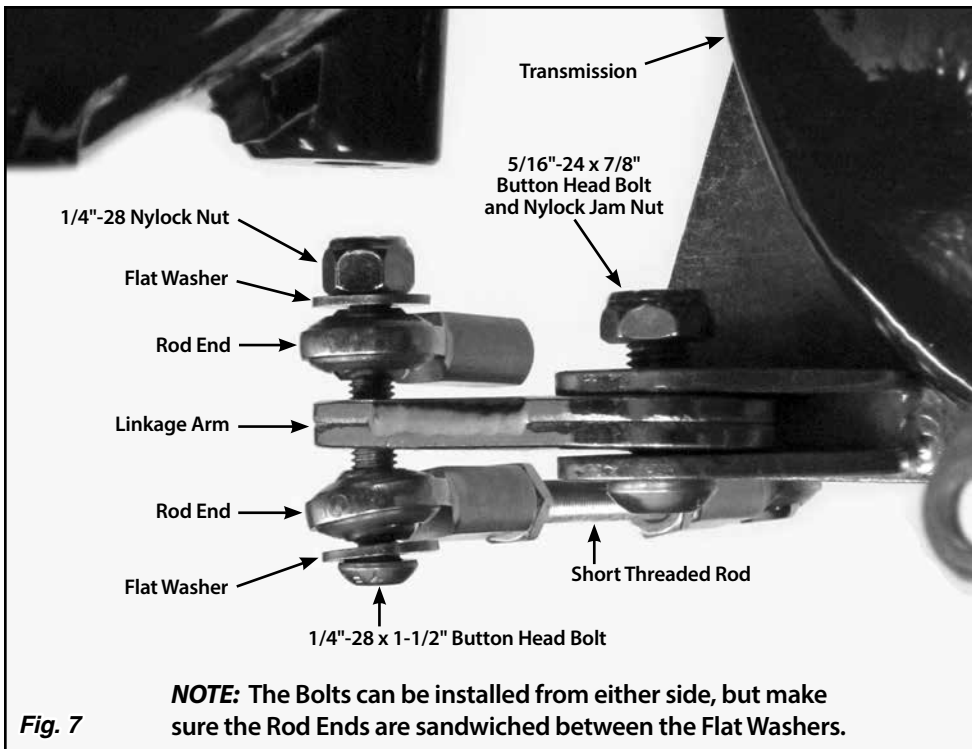

Fig. 7
Step 10: Verify that the linkage arm and rod ends are assembled correctly, with the short threaded rod on the outside of the linkage arm, away from the transmission. **Fig. 7** If not, rearrange the parts as needed in order to match **Fig. 7**. The bolt can be installed from either side, but make sure there is a flat washer to the outside of each rod end. Tighten the 5/16"-24 x 7/8" button head bolt and nylock jam nut at the bottom of the linkage arm. Then, loosen the 5/16"-24 nylock jam nut just enough so that the linkage arm can pivot freely.